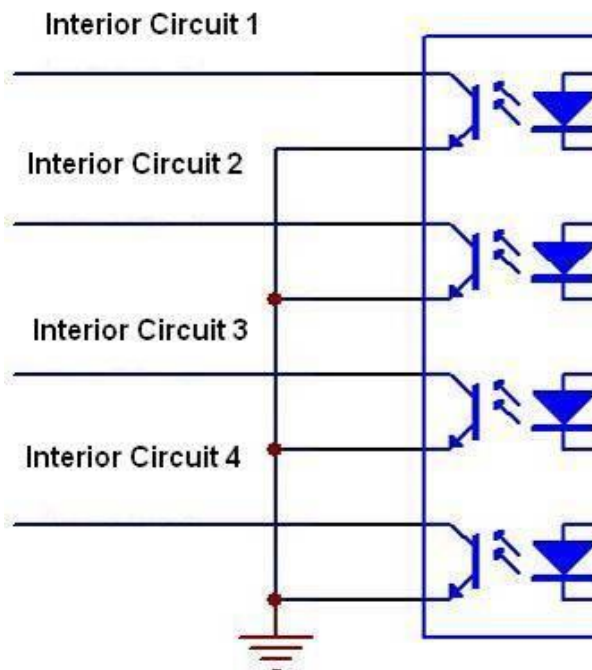

Figure 5-6
- About A/B cable of RS485, they are used to connect to the PTZ decoder A/B cable. Please refer to Figure 5-6 for alarm input module information.